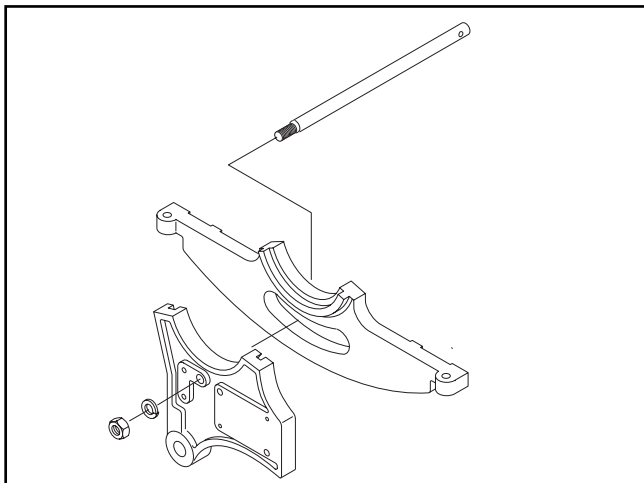

FIGURE 10B. Attaching guard support shaft.
- Push the threaded end of the shaft through the hole in the back of the saw (**Figure 10B**) until the shoulder on the shaft stops it.